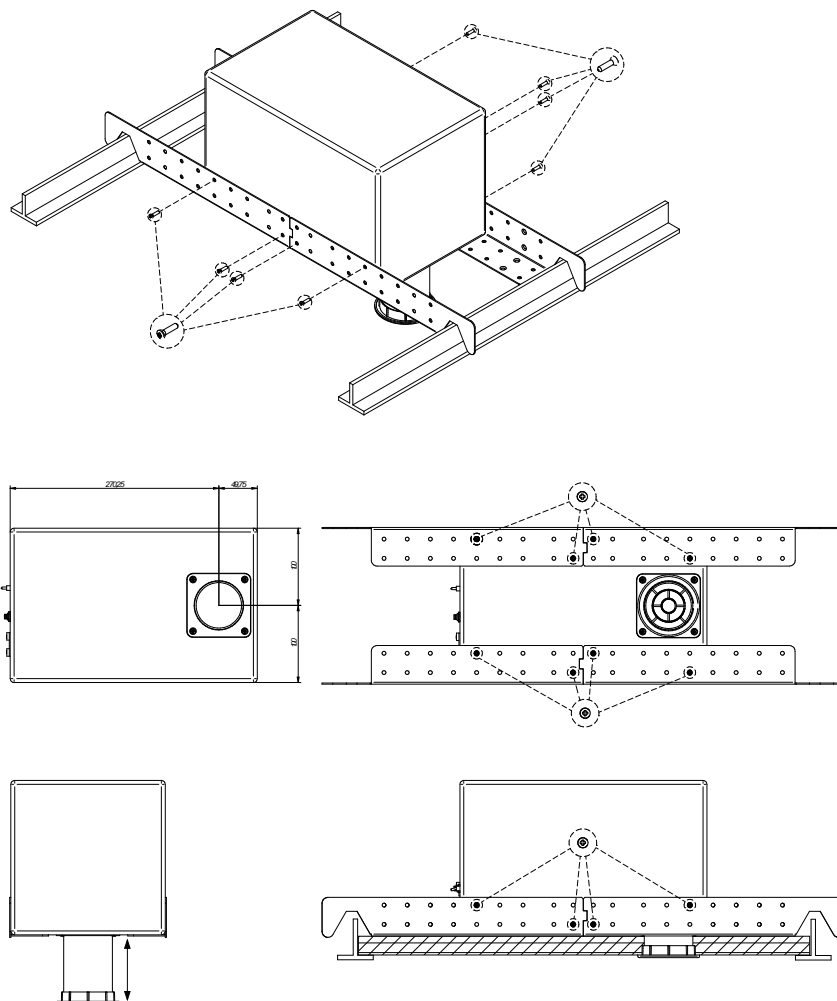

Figure 1: diagram for suspended ceiling installation
1. Screw the metal fittings to the TRAILS6T using the supplied screws. This can be executed by using several of the holes in the supports for the coupling bar installation in the desired position. See figure 1.